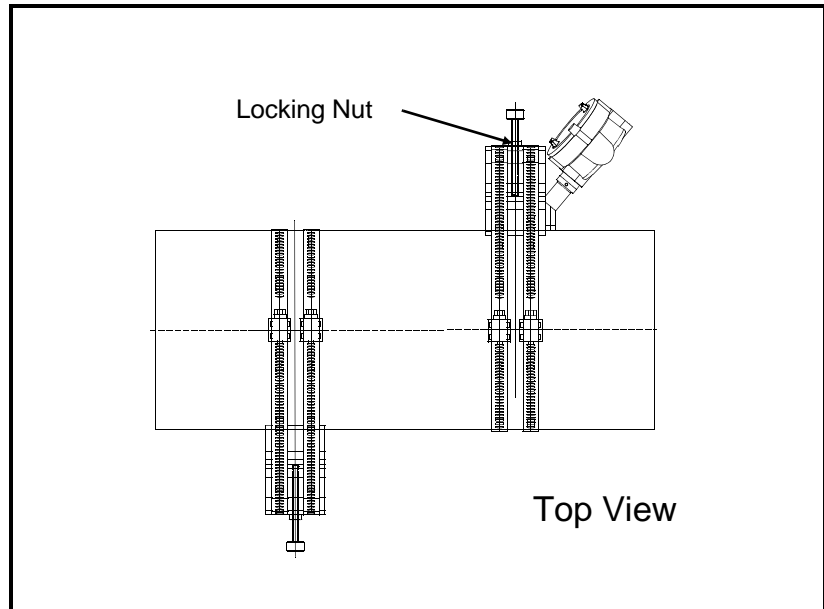

Figure 1-25: Transducer Orientation
4. Place the transducers in the appropriate blocks. Make sure the transducers are oriented as shown in Figure 1-25 below.